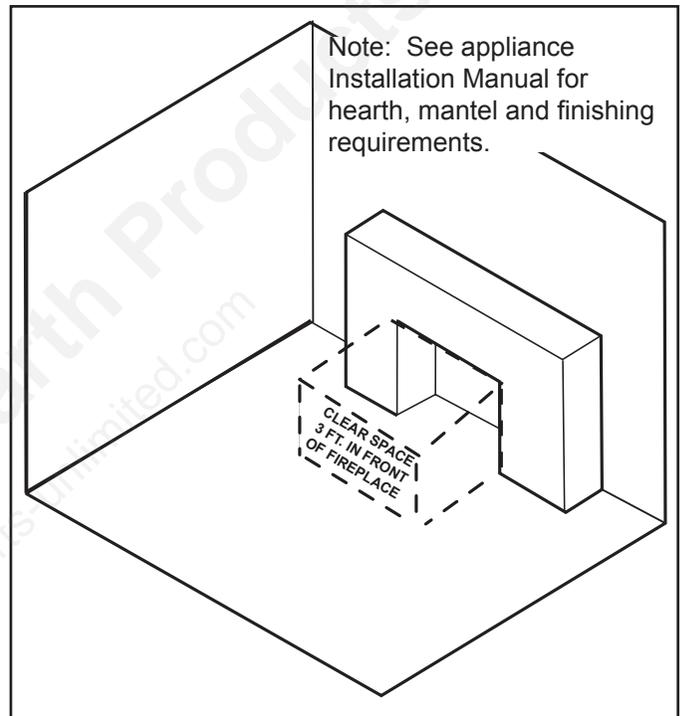

Figure 7.1 Clear Space
**WARNING! DO NOT place combustible objects in front of the fireplace.** High temperatures may start a fire. See Figure 7.1.